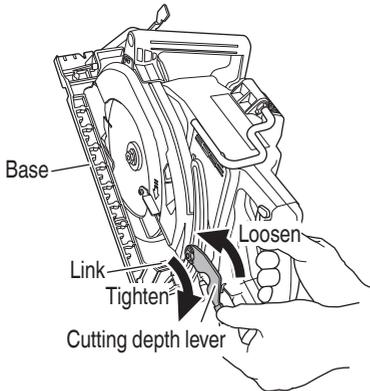
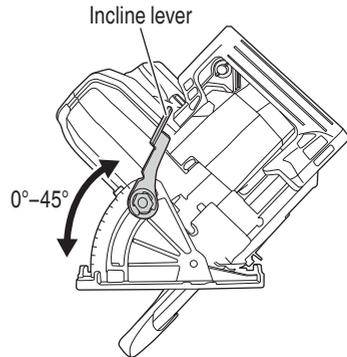

Fig. 21
Fig. 22
If the the cutting depth lever to adjust cutting depth (Fig. 21) and the incline lever to adjust angle of inclination (Fig. 22) are loose, injury can result. Make sure that they are tightened securely.
1. Adjusting the cutting depth (Fig. 21)
As shown in Fig. 22 by loosening the incline lever on the bevel scale, the saw blade may be inclined to an angle of 45° in relation to the base.
If the cutting depth lever (Fig. 21) is loose, injury can result. Make sure that it is tightened securely.